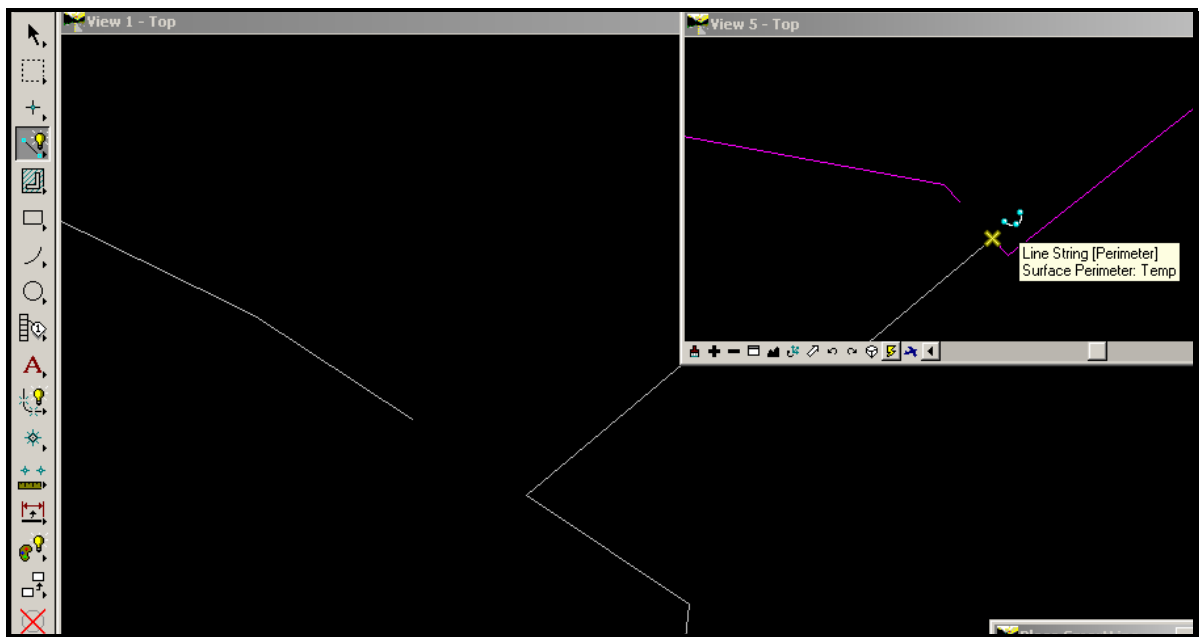

Figure 5-306: Multiple view windows open in MicroStation.
- When working with two different locations on the dgn, it is convenient to have two windows open, each one viewing the area to be edited. An example is shown in Figure 5-306. Do this by selecting Window>Views>5. Fit view and zoom to second gap area.